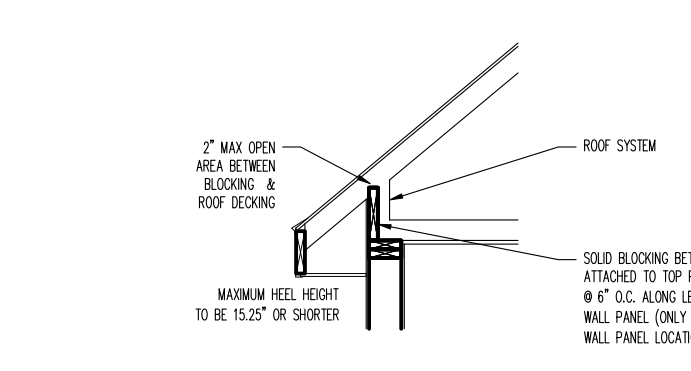

FIGURE 3
- APPLY 2X SOLID BLOCKING BETWEEN ROOF SYSTEM MEMBERS OVER BRACED WALL PANELS W/ 8d NAILS AT 6" O.C. ALONG LENGTH OF BRACED WALL PANELS WHEN HEEL IS 15.25" OR LESS (FIGURE 3, REFER TO FIG. #4 WHEN OVER 15.25").